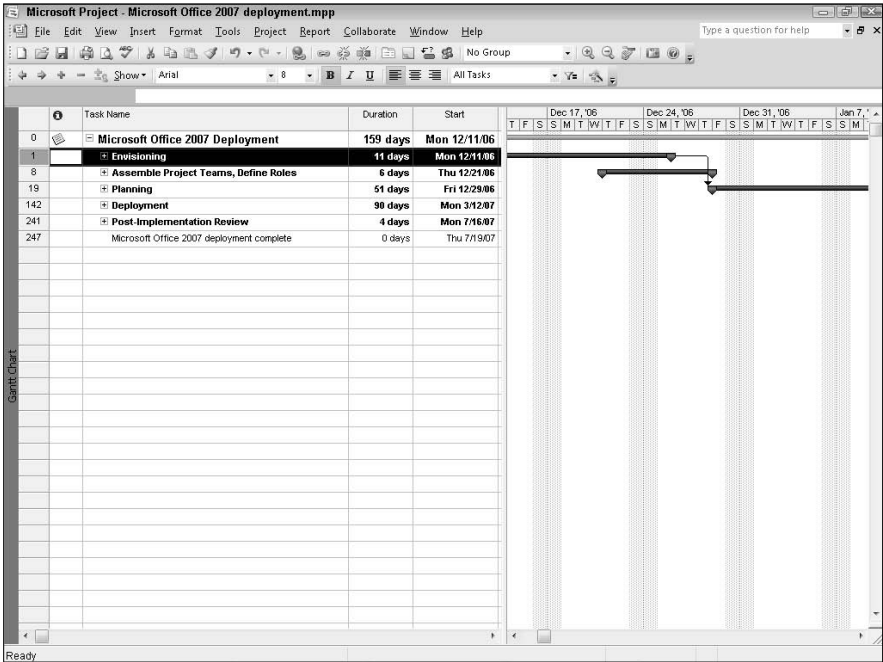

Figure 4-5: In your original project file, select the tasks you want to include in a subproject.
- 2. Select all the tasks that you want to save in your first subproject file (see Figure 4-5).**
In our example, we included the last Outline Level 1 heading, a milestone to mark the end of the project, in our last subproject file. So, we created five subproject files from the original file shown in Figure 4-5.